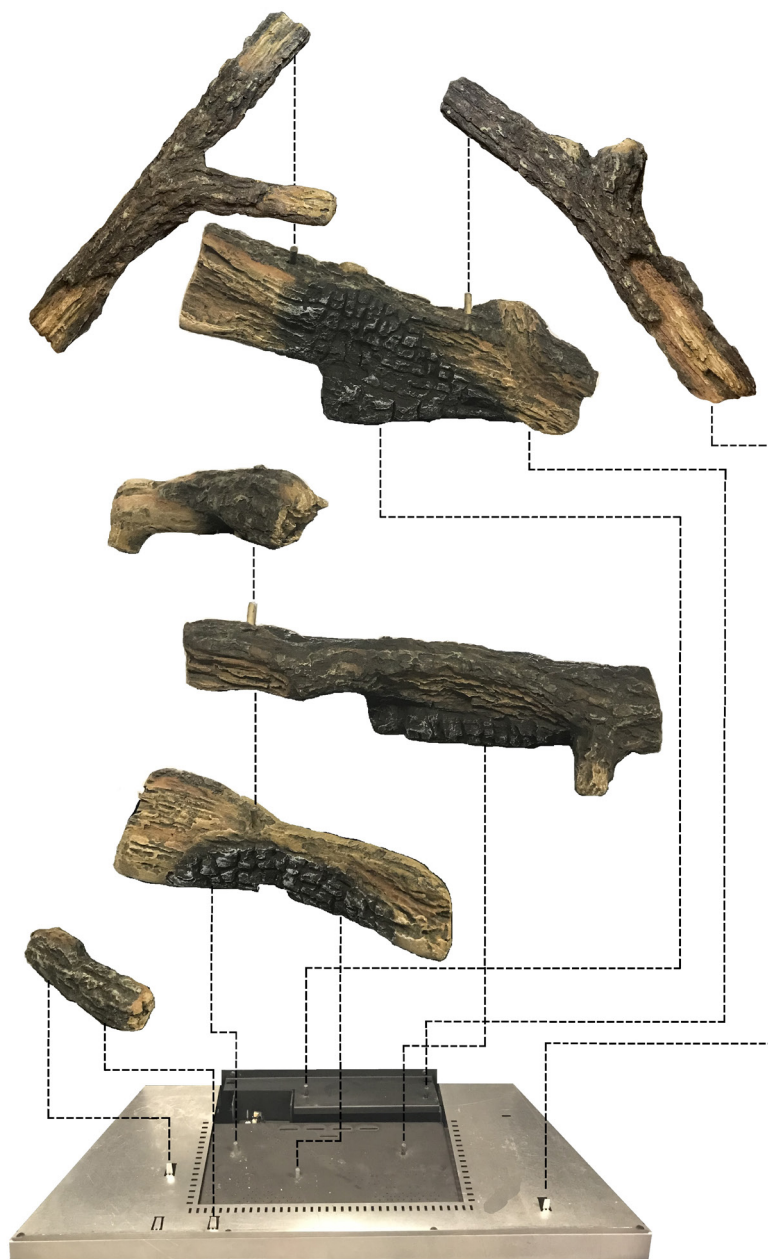

Figure 1: Log placement
3. Place logs in position as shown in Figure 1 and the following pages.